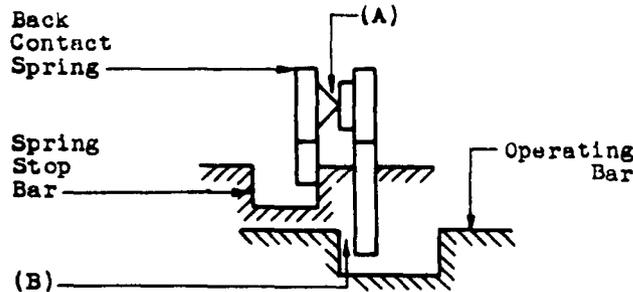

Fig. 16 - Operating Spring Pressure and Clearance Between Operating Spring and Operating Bar - Break Spring Combination
2.12 Pressure of Operating Spring Against Back Contact Spring on Break and Transfer Spring Combinations - Figs. 16 (A) and 17 (A)
2.13 Clearance Between Operating Spring and Operating Bar or Stud on Break and Transfer Spring Combinations - Figs. 16 (B) and 17 (B): With the operating bar in the normal position, the clearance between the operating spring and the operating bar or stud shall be